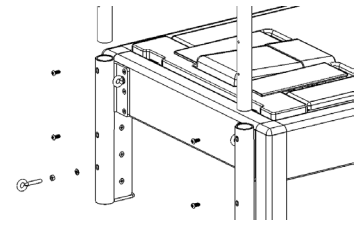

Figure 15: A) Leg Springs (the longest springs)
5. Attach the Roll Back Bar Springs to the Roll Back Bar and install the springs to the outer eye bolts on the top cross tube. See Figure 15 and B for reference.
6. Install the Arm Springs to the desired position on the tower and attach the handles to the springs. See Figure 15 and C for reference.